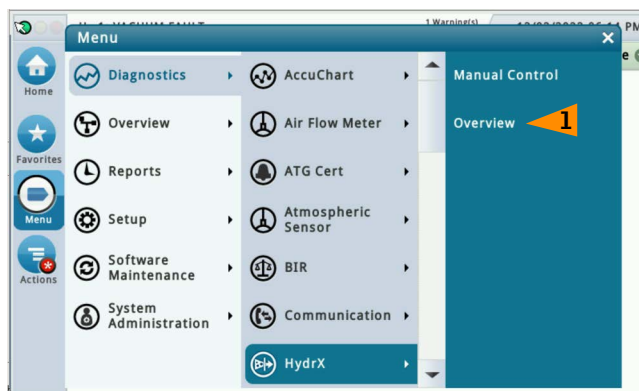
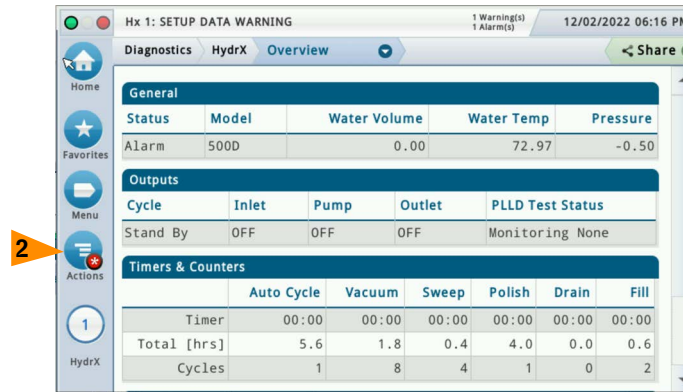

Figure 4. Accessing HydrX Diagnostic Overview Screen
Figure 5. HydrX Diagnostic Overview Screen
1. Touch **Menu>Diagnostics>Hydrx>Overview** (Item 1, Figure 4) to open the HydrX Diagnostic Overview screen (see Figure 5).
2. Touch the **Actions** button (Item 2, Figure 5) to open the HydrX diagnostic service buttons menu. Note: Gray Action buttons are disabled.